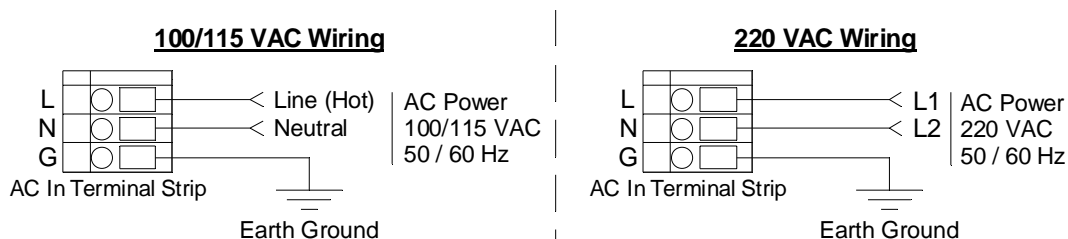

Figure 9: AC Power Wiring
6. Connect the AC wires to the AC in terminal strip as shown in Figure 9 below.